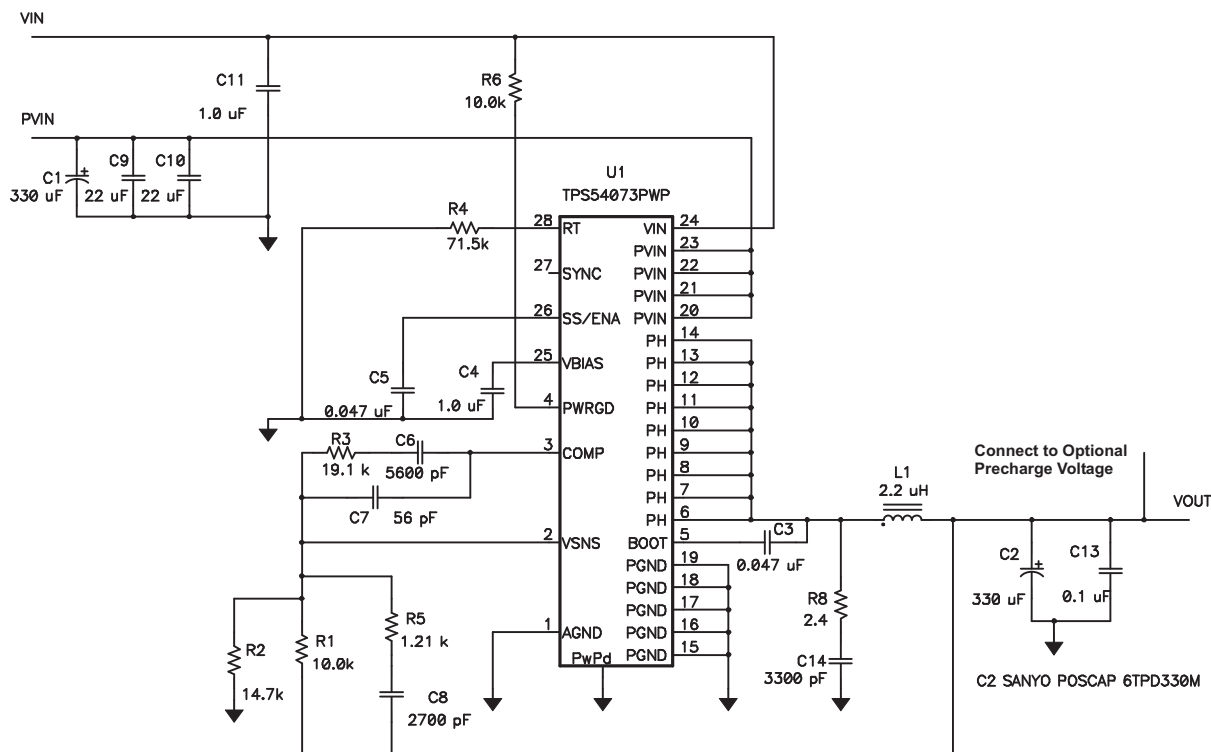

Figure 12. Application Circuit, 3.3 V to 1.5 V
(1) Specified by design
(2) Static resistive loads only
(3) Specified by design
(4) Specified by the circuit used in Figure 12
Figure 12 shows the schematic for a typical TPS54073 application. The TPS54073 provides up to 14-A output current at a nominal output voltage of 1.5 V. Nominal input voltages are 3.3 V for PVIN, and 3.3 V for VIN. For proper thermal performance, the exposed PowerPAD underneath the device must be soldered to the printed-circuit board.